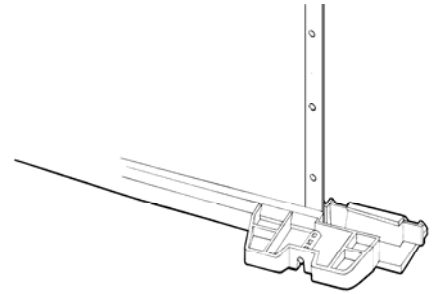

Figure 3.3
- Make sure that the pool wall is resting securely in the bottom of the wall channels (figure 3.3 and 3.5) and that it makes a perfect circle.